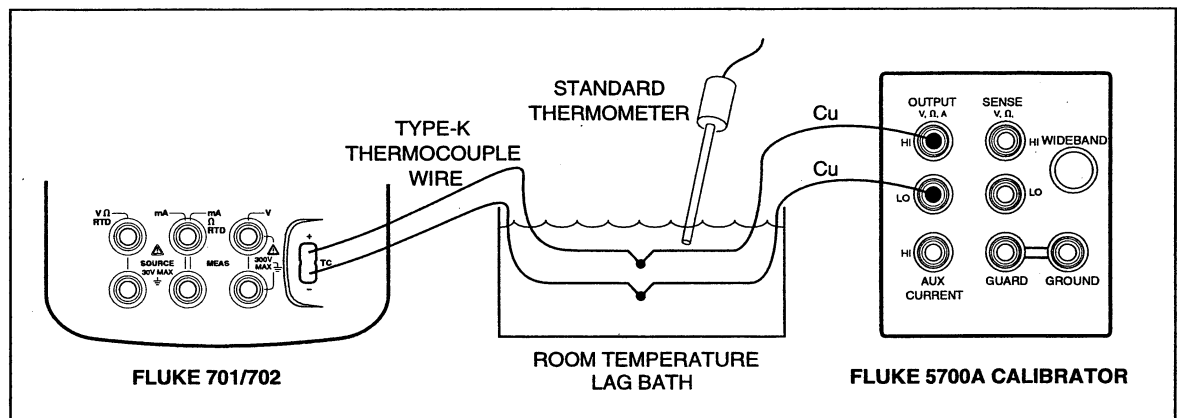

Figure 3-11. Temperature Measure (TC) Verification Connections (Alternate)
2. Use Type-K thermocouple wire and copper wire to connect the 5700A output to the UUT TC jack as Figure 3-11 shows. The junctions should be either welded or made with tight screw terminals and submersed in the lag bath (room temperature).
2. Use Type-K thermocouple wire and copper wire to connect the 8840A input to the UUT TC jack as Figure 3-11 shows. (The 8840A is used instead of the 5700A.) The junctions should be either welded or made with tight screw terminals and submersed in the lag bath (room temperature).